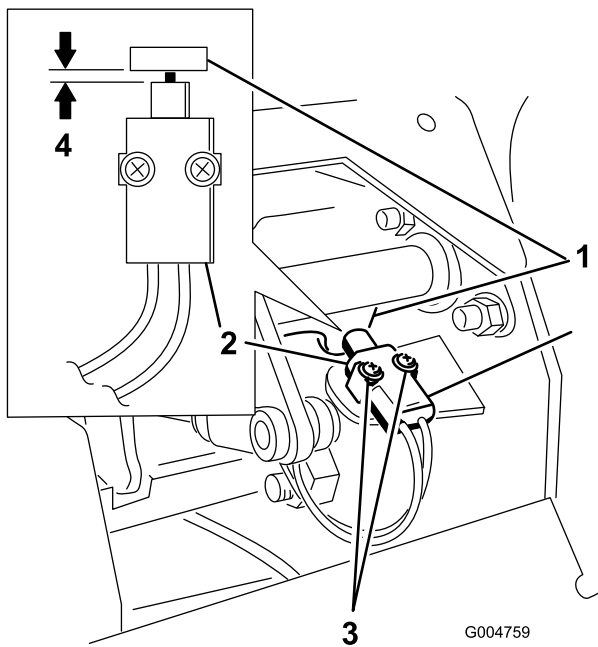

Figure 67
4. Move the switch toward the tab on the brake shaft until the distance between the tab and switch body is 0.015 to 0.045 inch (0.4 to 1 mm) (Figure 67).